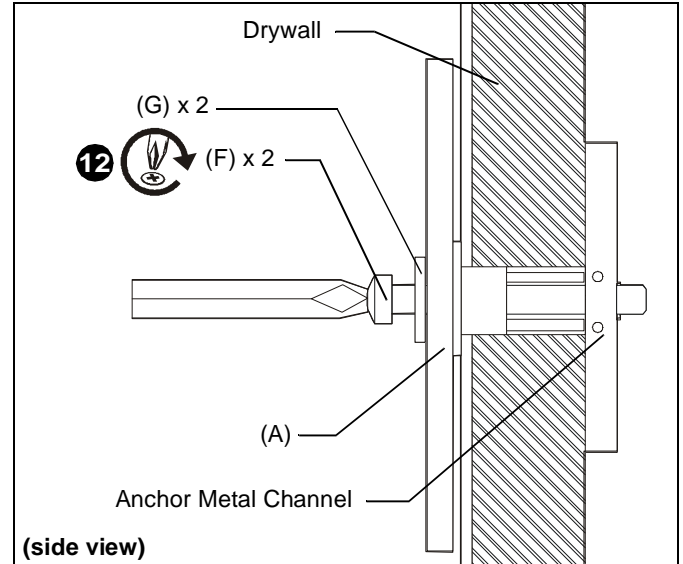

Figure 8
12. Place shelf mounting slots over anchors and align mounting slots in shelf with hole in anchors. (See Figure 8)
13. Insert one 10-24 x 1-1/4" Phillips pan head screw (F) through #10 washer (G), corresponding mounting slot on shelf (A) and into Snap-Toggle (J) and tighten until flush against shelf. DO NOT over tighten! (See Figure 8)